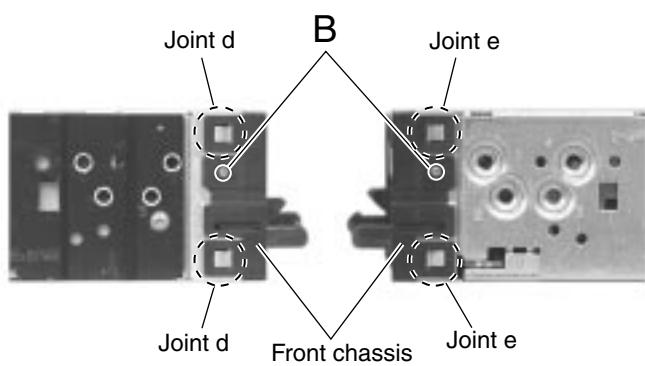

Fig. 5
■Removing the load arm (See Fig.5)